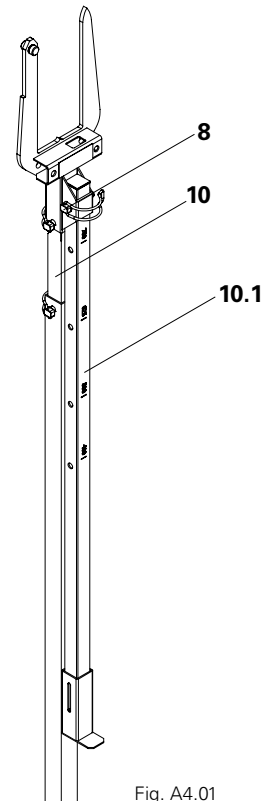

Fig. A4.01
The Distance Gauge MF-Plus (10) can be adjusted to accommodate different spacings thus eliminating the need to measure the cross beam spacings. In the case of higher ceilings, the telescopic tube can also be extended or lengthened in order to shutter the cross girders from the floor level. (Fig. A4.01)